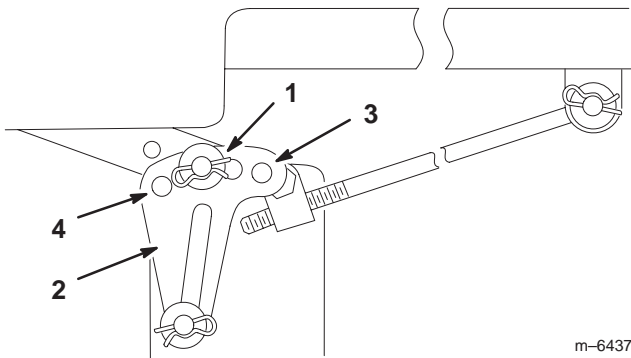

Figure 41
6. Remove the hairpin cotter and washer from the leveling bracket (Fig. 41).
- To level the blade(s), reposition the leveling bracket(s) in a different hole and install the washer and hairpin cotter. (Fig. 41 and 42). A front hole lowers the blade height and a rear hole raises its height. Adjust both sides as required.